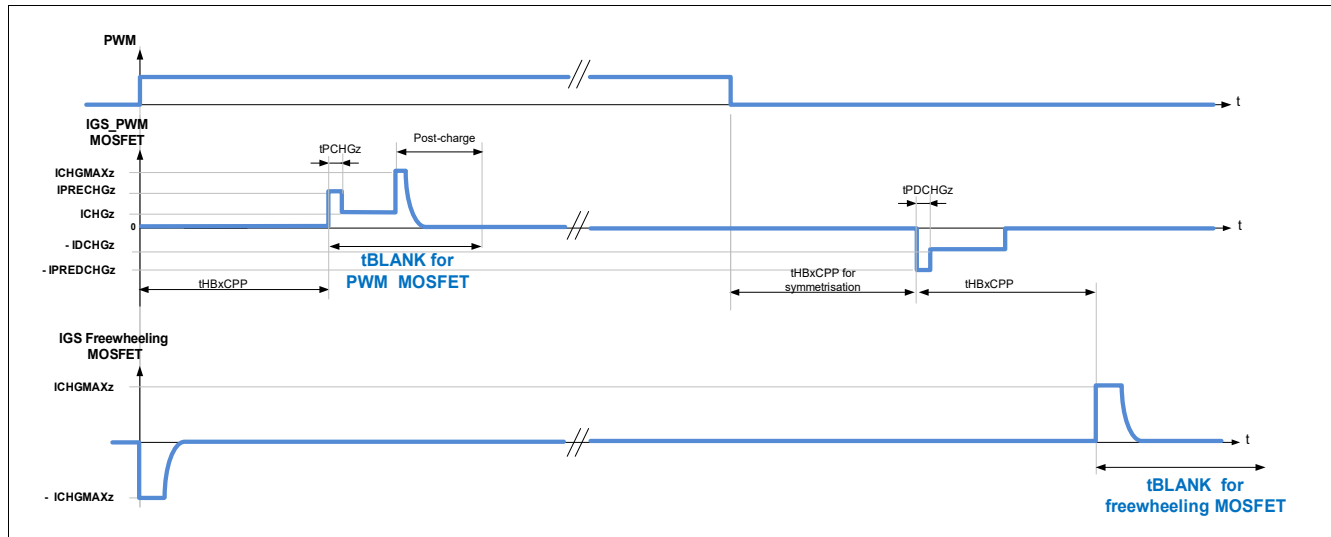

Figure 77 Blank time for half-bridges in PWM operation with AFW = 1
- the blank time of the PWM MOSFET starts at the expiration of the cross-current protection time of the PWM MOSFET. Refer to Figure 77.
- the blank time of the free-wheeling MOSFET starts after expiration of the cross-current protection time at turn-off of the PWM MOSFET. Refer to Figure 77.